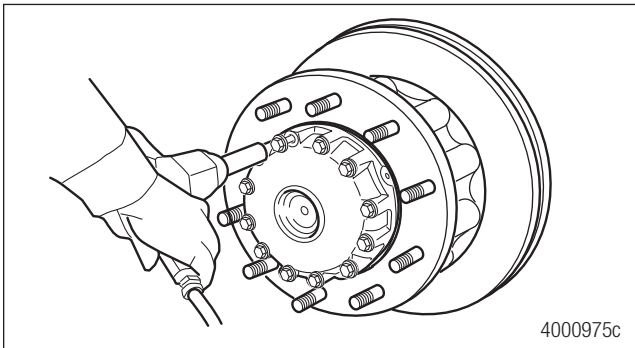

Figure 13.27
8. Install the hub cover onto the wheel end assembly. Install and tighten the capscrews. See Section 17 Torque Specifications on page 64. Figure 13.27.